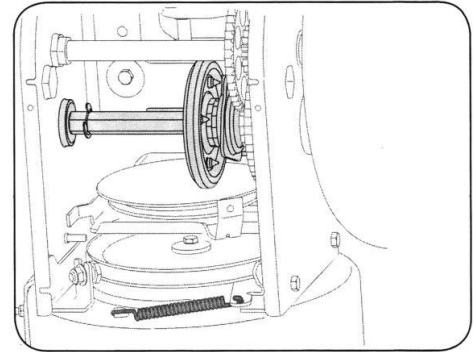

Figure 11
2. Apply a light coating of an all-weather multi-purpose grease to the hex shaft. See Figure 11.